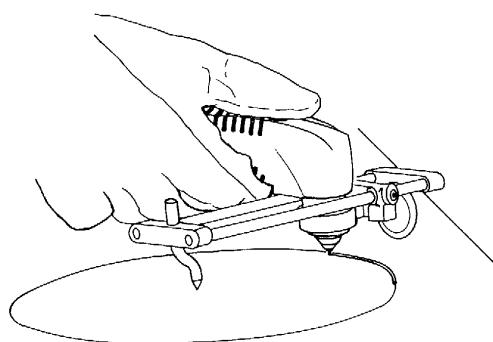

Figure 4-5 Cutting a Circle
- To cut perfect circles for spin fittings, use a template or a radius cutter attachment (Fig. 4-5).